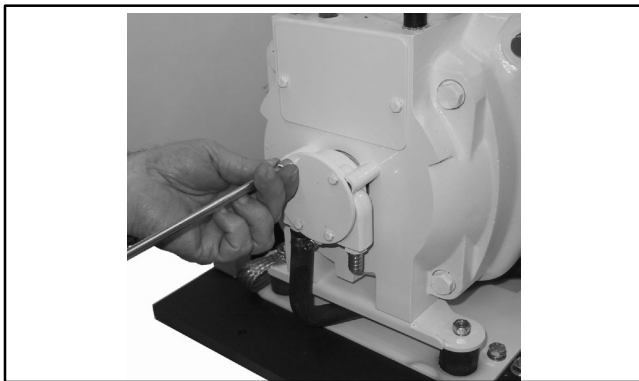

Figure 10-6 Seawater Pump Cover Removal
1. Using a 7 mm socket wrench, release the four M4 x 8 screws from the seawater pump cover. See Figure 10-6.